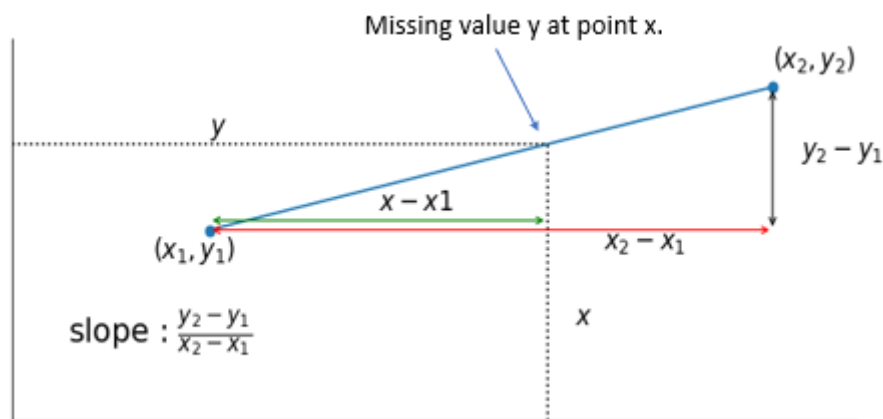

Fig 1: Linear Interpolation
**Hint.** With reference to Fig. 1, consider the known values of  $y_1$  and  $y_2$  at points  $x_1$  and  $x_2$ , respectively. The unknown value of  $y$  at any point  $x$  between  $x_1$  and  $x_2$  can be computed based on the straight line from  $(x_1, y_1)$  to  $(x_2, y_2)$ , as shown in Fig.1.